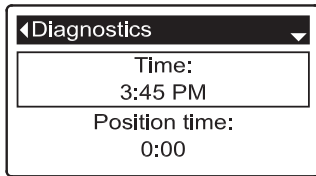

FIG. 150
8. Press the SELECT (O) button to display the Diagnostics screen (See Figure 150).